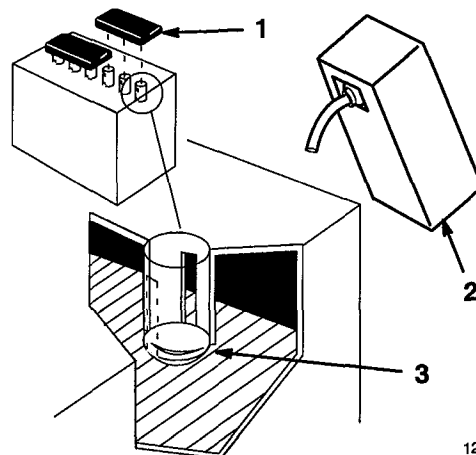

Figure 5
2. Remove the filler caps from the battery. Slowly pour electrolyte into each cell until the electrolyte level is up to the lower part of the tube (Fig. 5). Use an electrolyte with a specific gravity of 1.265.
5. Slowly pour electrolyte into each cell until the level is once again up to the “UPPER” line on the battery case (Fig. 5), then install the filler caps.